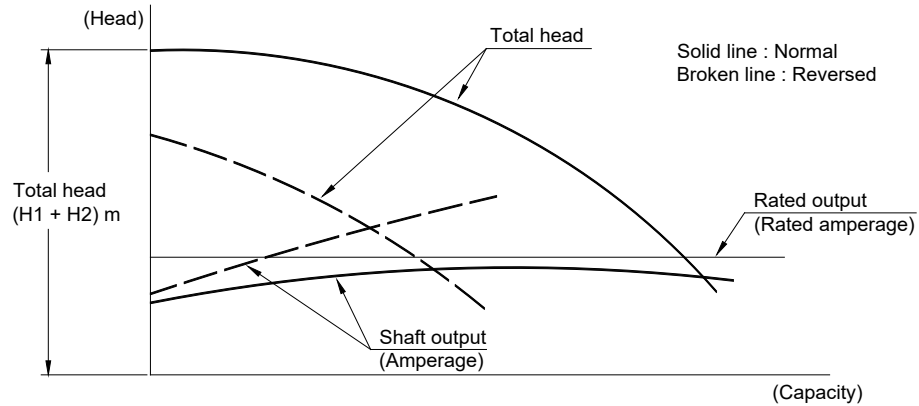

Fig. 12 Pump performance of Normal Rotation VS reverse rotation
5.2 Checking Rotation Direction (Figs. 12 and 13)
If the pump is reversed, a performance curve as denoted by dashed lines in Fig. 12 is usually obtained, where the pump's discharge pressure is lower than normal or specified, and a sudden rise in electric current occurs with gradual opening of sluice valve.